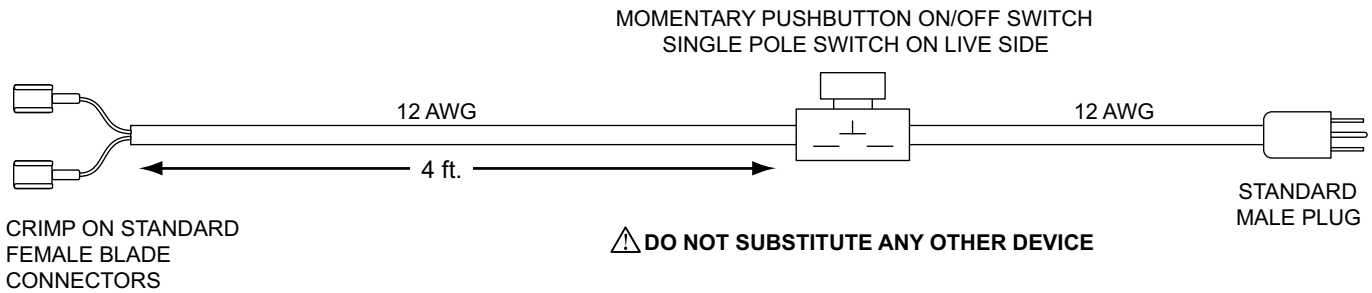

Figure 3-6. Construction of Energizing Cord
1. Construct an energizing cord similar to Figure 3-6 and connect as shown in Figure 28.